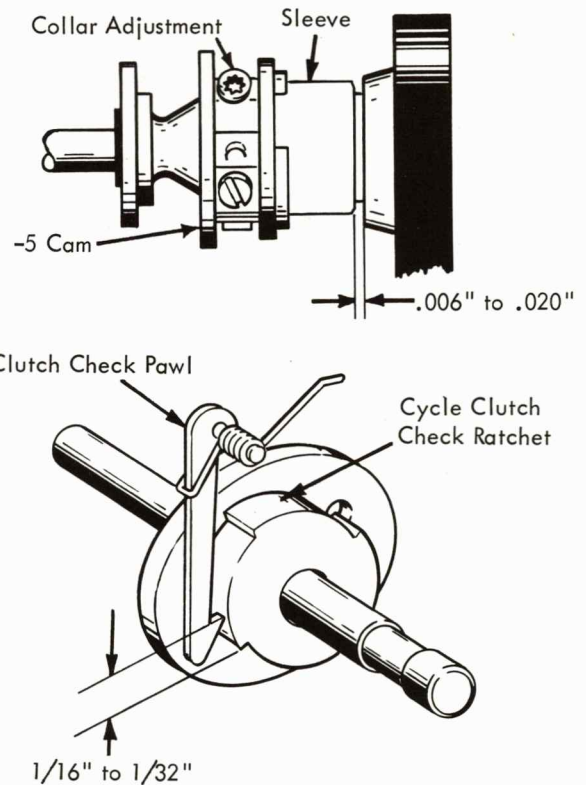

FIGURE 43.1 Cycle Clutch Spring And Collar Adjustment
### 3.1 Cycle Clutch Spring and Collar Adjustment (Late Style Clutch) (Fig. 43.1)
- b. Radial position of the collar - (The position of the collar directly controls the radial position of the left hand end of the cycle clutch spring with respect to the cycle shaft. It determines how much the spring clutch will be expanded when the cycle clutch sleeve is latched and the cycle shaft is in its rest position.) Adjust the collar so that when a zero tilt, negative-five rotate character is hand cycled the cycle clutch spring will begin to slip (expand) when the cycle shaft is  $1/16"$  to  $3/32"$  from its rest position measured on the surface of check ratchet (Fig. 43.1).